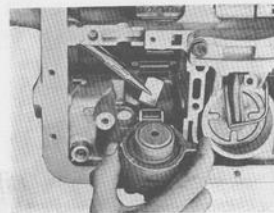

Fig. 4-115. Installing front servo and strut
10. Place the front brake band in position, see Fig. 4-115. Stick the strut to the servo lever with vaseline.